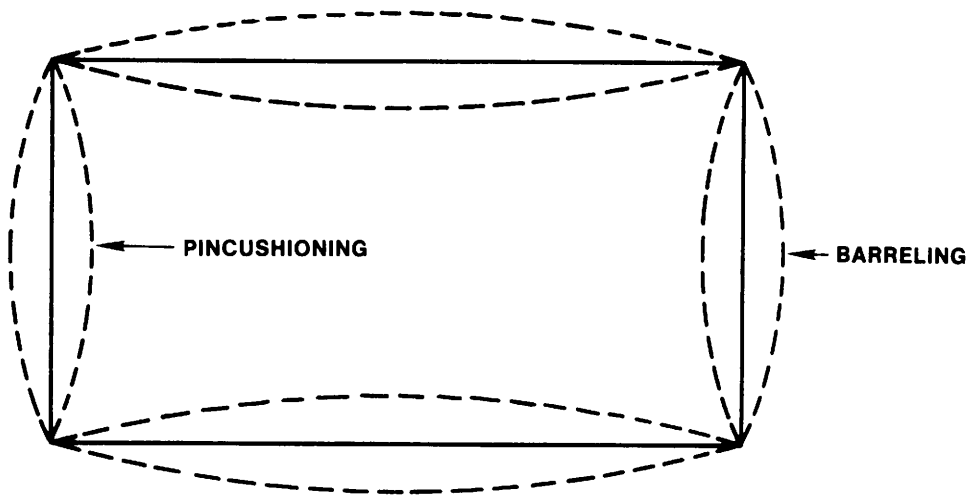

Figure 5-17. Pincushioning and Barreling of CRT
- 19) Adjust the two tabs around the CRT neck one at a time to center the display and to eliminate any barreling, pincushioning, or distortion. Refer to Figure 5-17 for example of Barreling and Pincushioning.